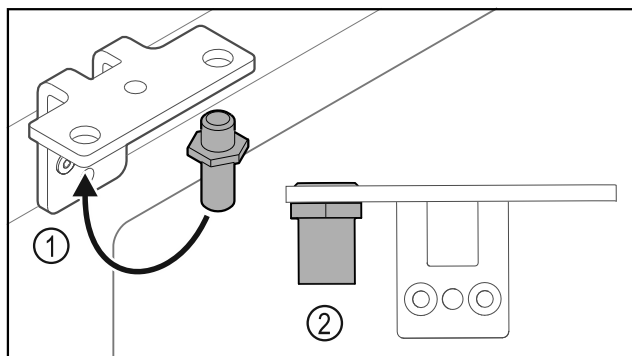

Fig. 28
- Put the pin back into the hinge Fig. 28 (1).
- Tighten the pin Fig. 28 (2) to a **torque of 12 Nm**.